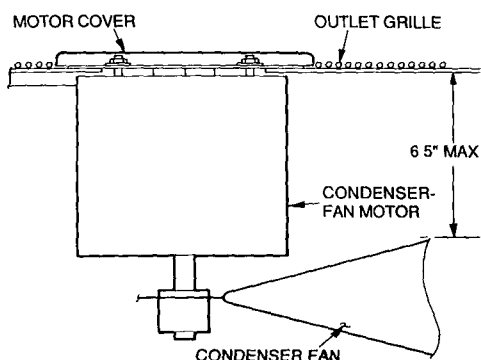

Fig. 17 - Condenser-Fan Adjustment
Condenser-Fan Adjustment (Fig. 17)
3. Adjust fan height as shown in Fig. 17.